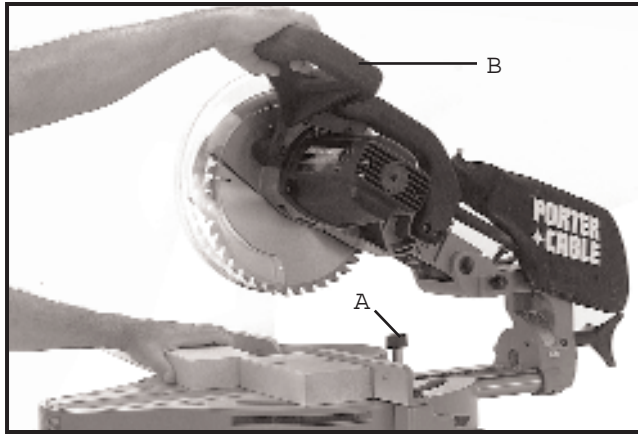

Fig. 45
When cutting material that is narrow enough to allow the saw blade to cut through in a chopping motion (similar to a conventional miter saw) instead of sliding the saw blade through the workpiece, the sliding action of the saw must be locked in the rear position, as shown in Fig. 45, by tightening lock knob (A). The cuttinghead (B) is pushed straight down to make the cut. After the cut is completed, release the switch trigger and let the blade come to a complete stop before returning the cuttinghead to the up position.